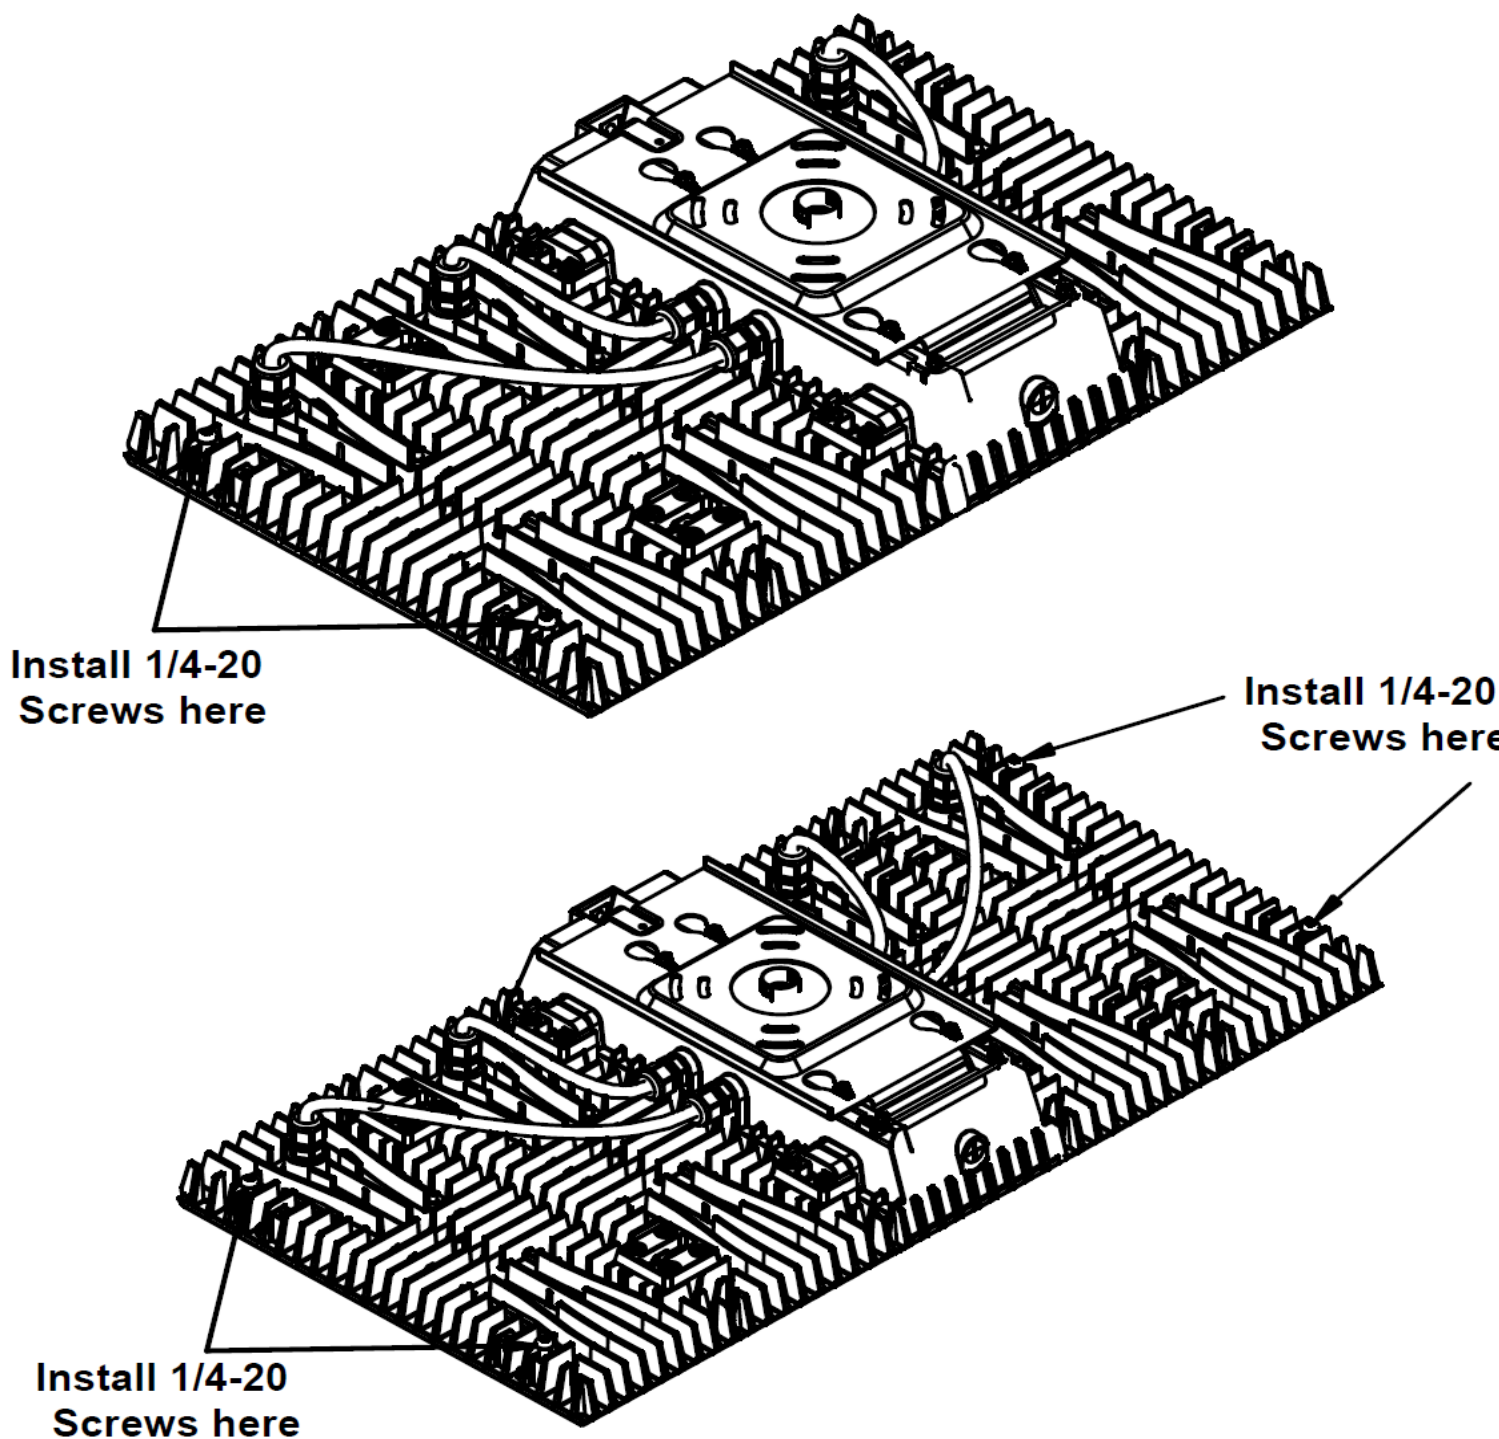

Fig. 13
2. With luminaire in installed position, install (2X) 1/4-20 screws into the holes shown in figure 13. Do not fully screw into heat sink. Screw heads need to sit above heat sink fins. See figure 14.
2. With luminaire in installed position, install (4X) 1/4-20 screws into the holes shown in figure 13. Do not fully screw into heat sink. Screw heads need to sit above heat sink fins. See figure 14.